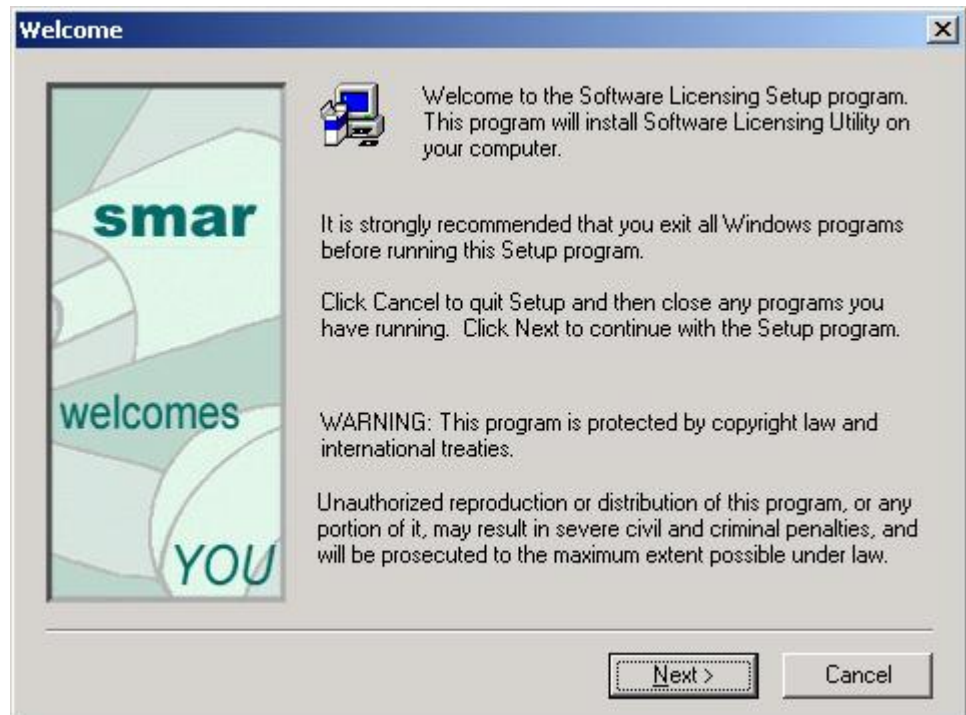

Figure 3.1. Welcome Screen
5. The Software License installation starts and displays a **Welcome** screen, as shown in **Figure 3.1**.